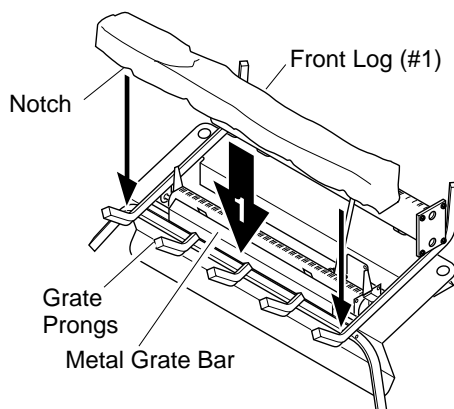

Figure 34 - Installing Front Log (#1)
1. Place front log (#1) on top of the grate. Make sure the notches in the bottom of the log fit over the grate prongs (see Figure 34). Push back of log flush with metal grate bar.